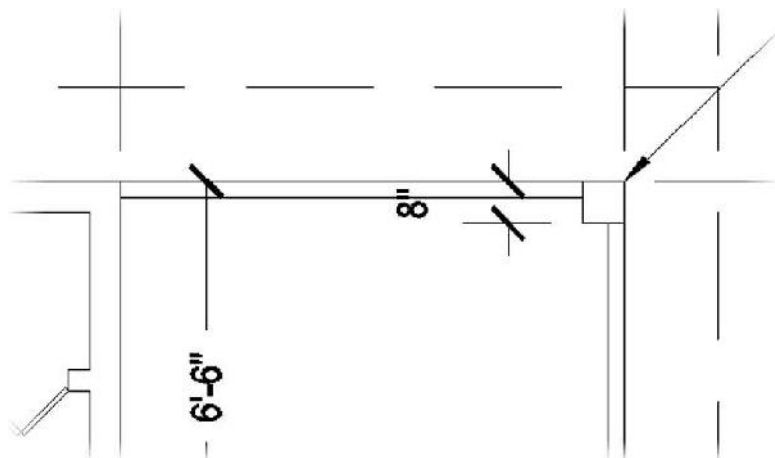

FIGURE 12.54: The text for the short dimension is not placed near the dimension lines.
5. Place the dimension line about 2' (610 mm) to the left of the deck post. The 8" (204 mm) dimension is placed even farther to the left of the point you selected (see Figure 12.54).